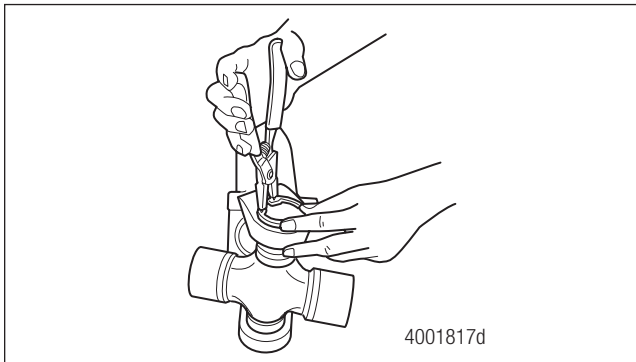

Figure 9.19
7. Use snap ring pliers to install the second snap ring into the snap ring groove. Figure 9.19.